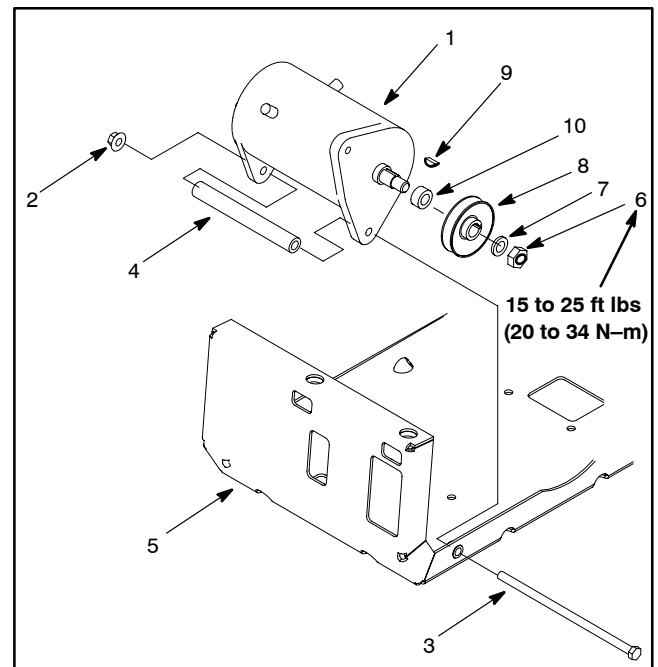

Figure 21
8. Remove pulley from the starter/generator shaft (Fig. 21).
1. Install pulley to the starter/generator shaft (Fig. 21).